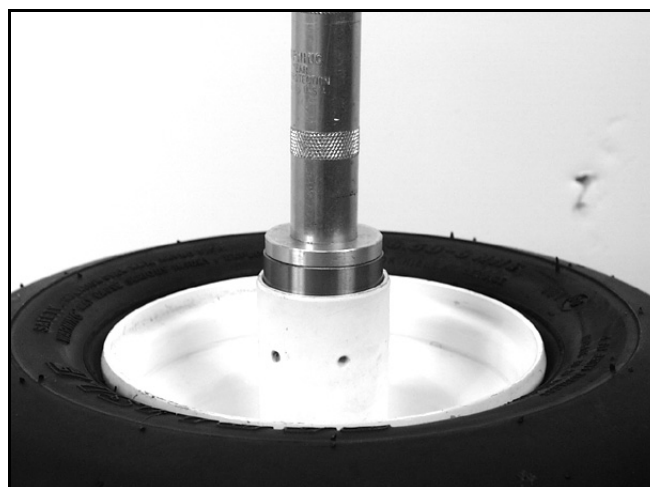

Figure 104
9. Press a new race into the wheel hub (Figure 104).